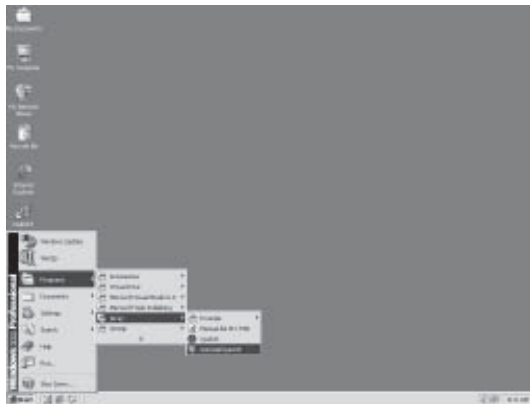

Fig 2.10 Uninstall window
Click **UNINSTALL** under the said program folder with the left mouse button, as shown in Fig. 2.10;
2.4 After selecting the Quick II program folder in the said dialogue box, click **Add/Remove Program** and a dialogue box appears asking if you want to remove the program. Click **Yes** and the Remove window, as shown in Fig.2.10, appears.